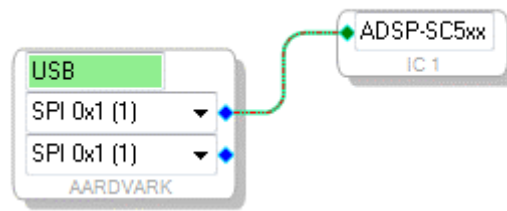

Figure 26: Aardvark to 2156x connection
10. Connect the first blue (output) pin of the 'Aardvark' to the green (input) pin of the 'IC 1' block as shown in Figure 26.
11. A drop-down menu is enabled adjacent to the connected pin of 'Aardvark'. Select 'SPI 0x1 (1)' from the drop-down menu for both the ICs.